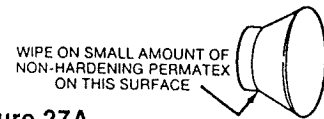

Figure 27A
3. Apply thin layer of non-hardening Permatex on outer surface of heat sink (part that fits into cavity, Figures 27A and 27C).